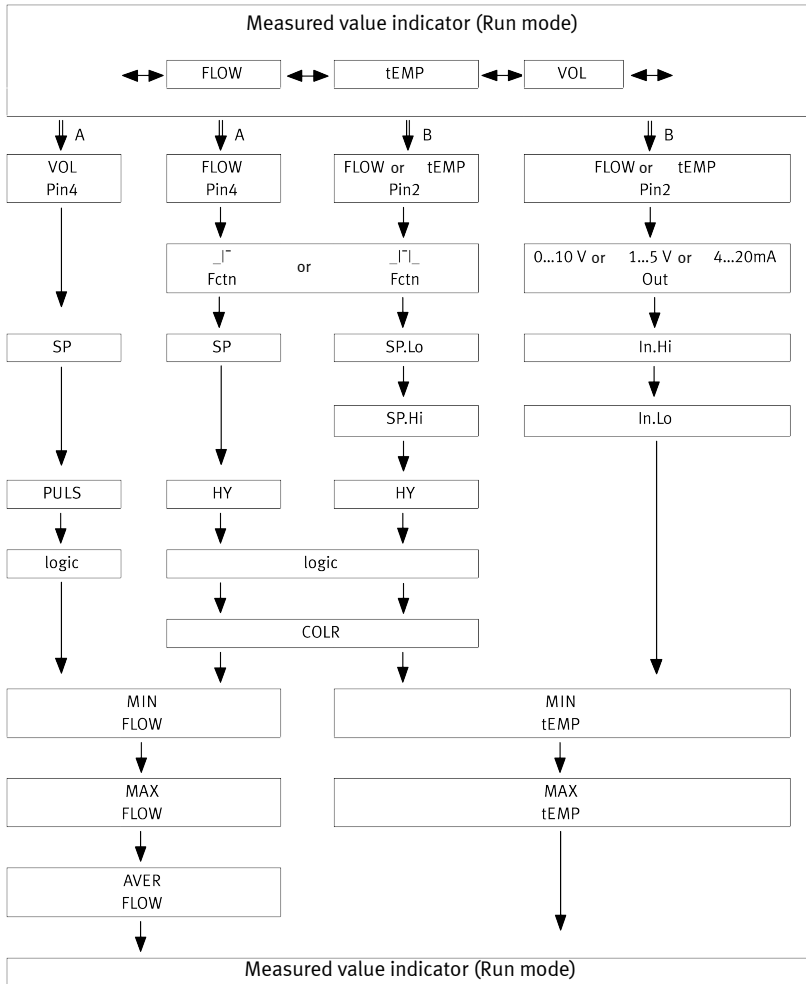

Fig. 8: Menu structure SHOW mode
2. Press the [A] or [B] key to switch between the flow rate, volume and temperature measured variables → Fig. 8.